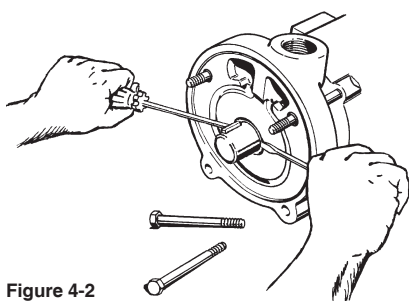

Figure 4-2
6. Remove the Shaft Sleeve (#17). The sleeve is a keyed fit and is removed using two large screwdrivers. Refer to Figure 4-2.